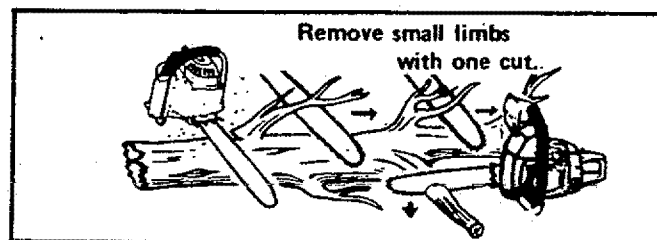

Figure 26
- c. Start at the base of the felled tree and work toward the top, cutting branches and limbs. Remove small limbs with one cut. Figure 26.